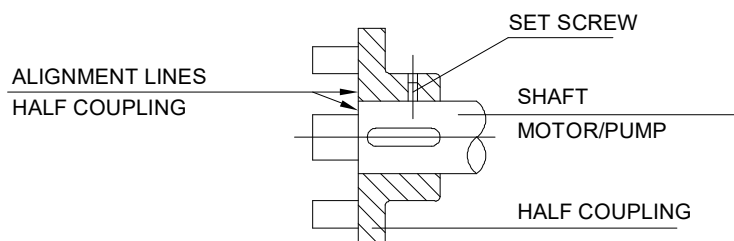

Fig. 3
- 1 - Thoroughly clean motor/pump shaft ends and shaft keys, place the shaft keys in the proper keyway slots and fit the coupling halves in line with the shaft ends. The use of a rubber hammer and even pre-heating of the metal half couplings may be required (see fig. 3). Lightly tighten the set screws. Verify that both pump and motor shafts rotate freely.